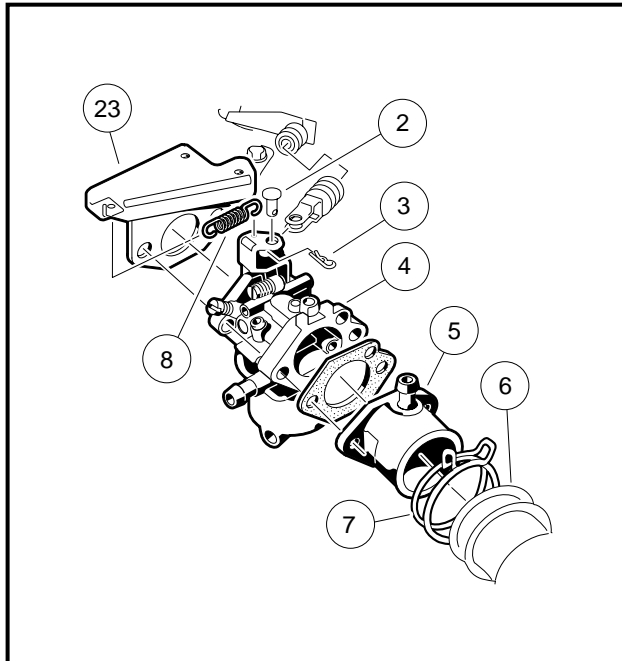

Figure 13-6 Carburetor Removal
3. Loosen air intake hose clamp (7) from intake pipe (5) and remove hose (6) **(Figure 13-6, Page 13-9)**.
7. Remove carburetor (4) along with throttle spring (8) and throttle spring bracket (23) (**Figure 13-6, Page 13-9**).